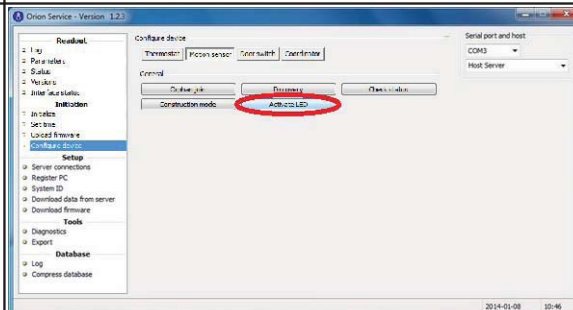

Figure 102
7. Go to the **Configure device** section in the left part of the Orion Service software window and choose the **Motion sensor** tab. Make sure that the service cable is plugged into the motion sensor and click the **Activate LED** button; see Figure 102.
10. Choose the **Configure device** section in the left part of the Orion Service software window. Make sure that the service cable is plugged into the motion sensor and click the **Activate LED** button; see Figure 102.
12. Test the range of the motion sensor. First, make sure that the door is open as this will ensure that the motion sensor is not deactivated by the thermostat. Choose the **Configure device** section in the left part of the Orion Service software window. Make sure that the service cable is plugged into the motion sensor and click the **Activate LED** button; see Figure 102. Walk around the room; the LED of the motion sensor will light up as motion is detected. Ensure that the range is sufficient to pick up motion in the room. The LED will be active for 10 minutes and then automatically turn off. The system is now ready for use.